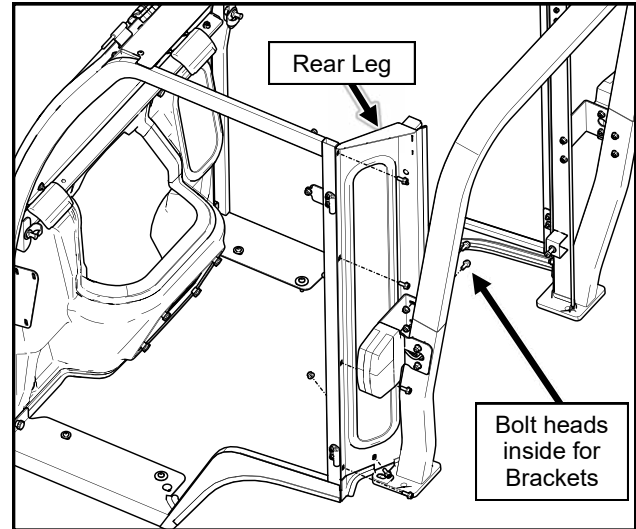

Fig. 11.1 (Rear Leg Installation)
11.1 With assistance, install the left side rear leg oriented as shown. See Fig. 11.1. Fasten to the side frame and ROPS brackets. Align the top of the rear legs to the top of the side frames and tighten all fasteners. Repeat for right rear leg.